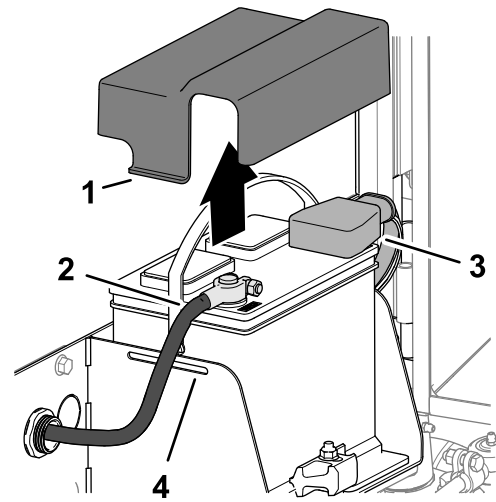

Figure 131
3. Press the sides of the battery cover, and remove the cover from the battery tray (Figure 131).